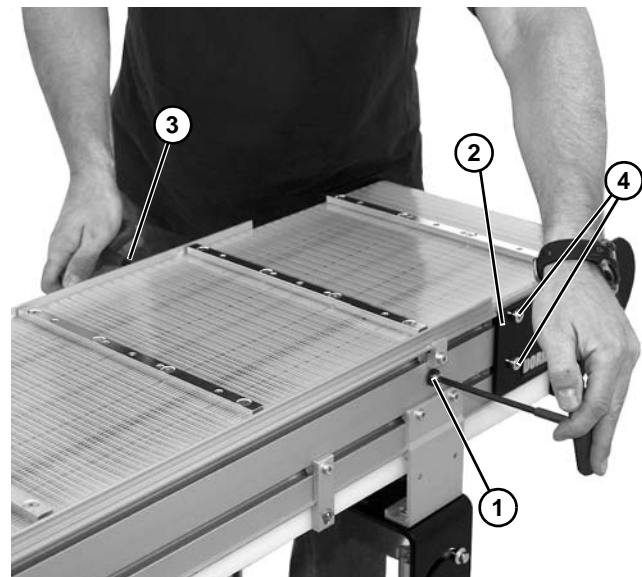

Figure 6
2. On tension end of the conveyor, identified by the pinion locking screw (**Figure 6, item 1**), push in head plate assembly (**Figure 6, item 2**): Loosen the pinion locking screw (**Figure 6, item 1**), adjust the pinion torque screw on opposite side with a hex wrench (**Figure 6, item 3**). On both sides of conveyor, loosen the two tail clamp bolts (**Figure 6, item 4**), and push head plate assembly (**Figure 6, item 2**) inward.